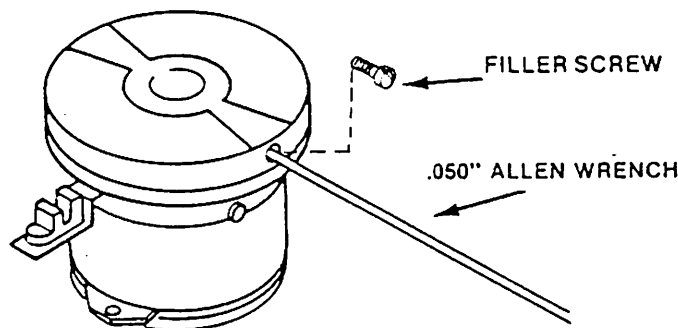

FIGURE 1.
- e. Insert a .050" allen wrench into the filler screw hole and loosen the allen screw inside. Rotate the damper 90° and loosen the second allen screw. Gently remove the damper assembly by applying a light upward pressure. Reference Figures 1 and 2.